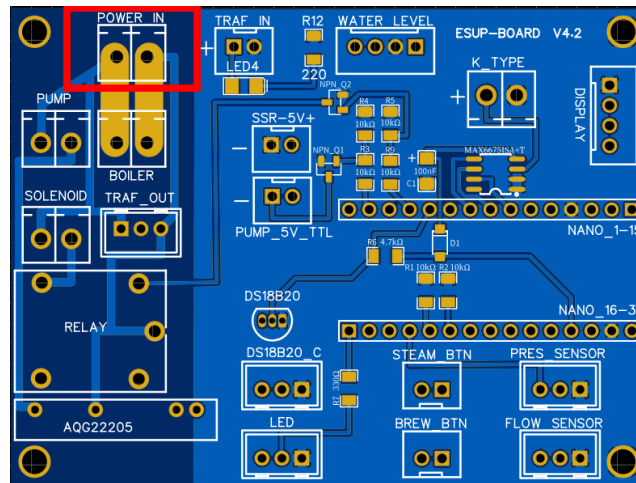

Fig.10.1
- Take the POWER IN cable from the package. Connect the green plug to the POWER IN main board (fig. 10.1). Press firmly until you hear a click. Check twice, the connection need to be firmly otherwise damage may occur.